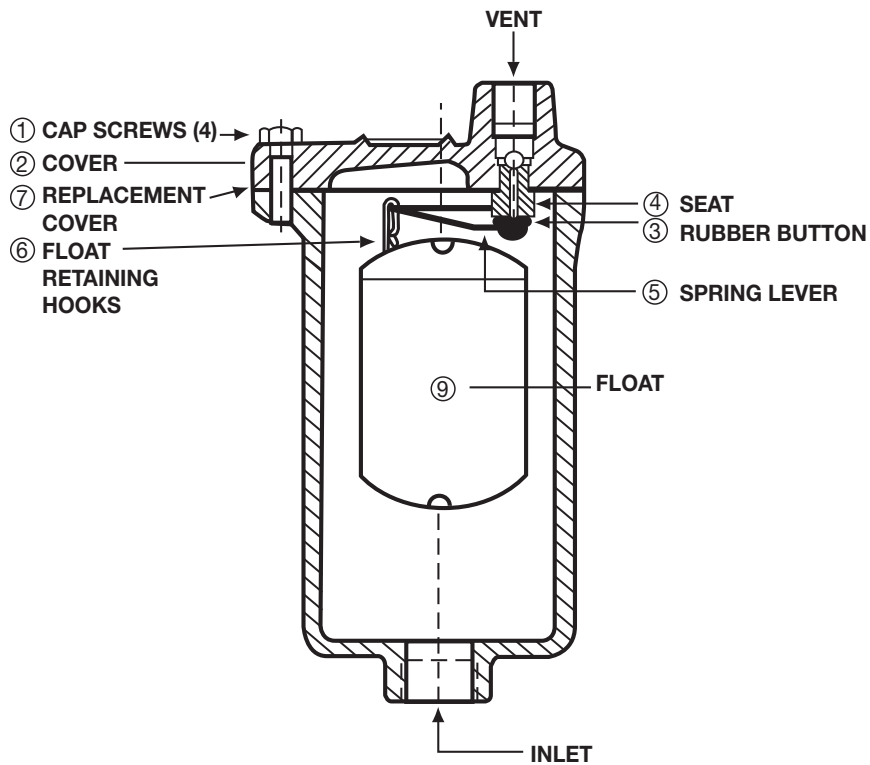
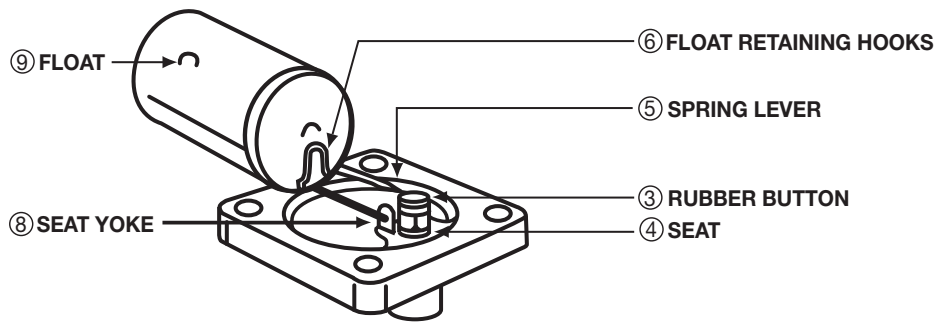

FIG. 1
FIG. 2
1. Remove the four cap screws that attach the cover to the body. (Item 1, Fig.1)
2. Remove the cover from the body making sure not to damage the gasket surfaces on the cover or the body. (Item 2, Fig. 1)
3. Inspect the rubber button and its mating seating surface for damage or foreign material. (Items 3 & 4, Fig. 1 or 2) If the rubber button is damaged or has deteriorated, the lever and button assembly must be replaced.
4. The spring lever and button assembly is removed by pulling the outer wires of the spring lever out of the holes in the seat yoke. (Items 5 & 8, Fig. 2) (See Fig. 1 Note). Next, remove the spring lever and button assembly from the float by pulling it through the retaining hooks. (Item 6, Fig. 1 or 2).
6. Thoroughly clean gasket surfaces and install a new gasket. (Item 7, Fig. 1)